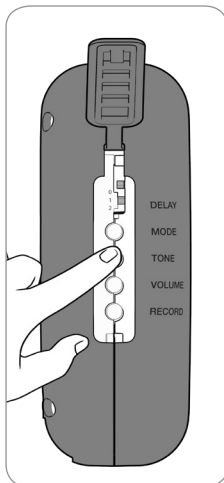

Fig. 6
4. Press TONE button on left side of alarm to scroll through the tone selections (Fig. 6).